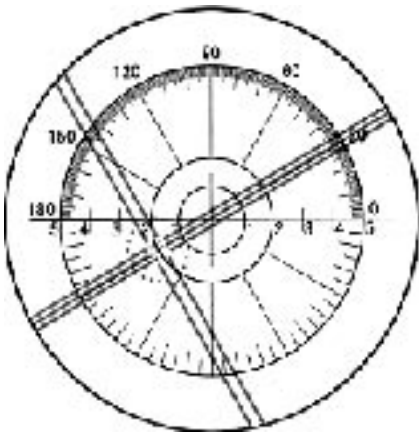
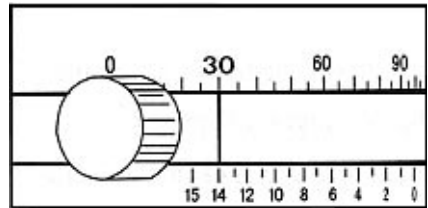

Fig. 18
Fig. 19
- d. Values of prism degree are read on eyepiece dividing plate and prism compensator respectively, and the sum of both values is prism degree of this prism lens (Figs. 18 and 19).
- e. Basal angle of this prism lens is read on prism compensator (Fig. 19).
It can be known from Fig. 18 and Fig. 19 that measured data of this prism lens are: prism degree 16Δ and basal angle 210° .